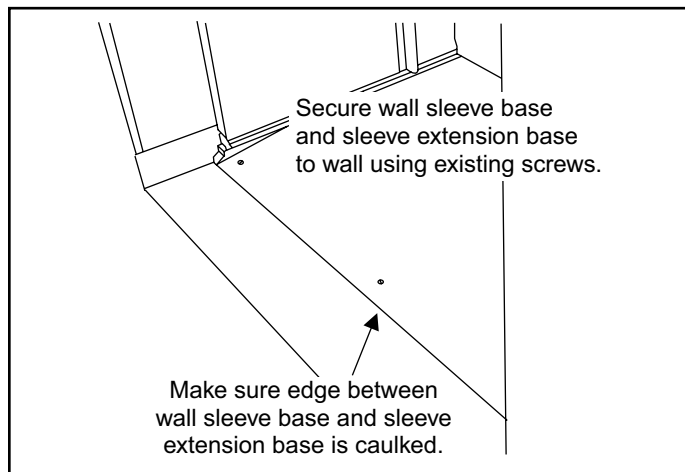

Figure 3. Installing Extension Base
2. Remove the three screws from the front of the plastic base of the wall sleeve (see Figure 3). Slide base panel of sleeve extension underneath plastic base of wall sleeve, aligning screw holes in each. Base panel of sleeve extension should be flush with exterior of wall. Caulk between each surface. Use the three screws removed earlier to secure the wall sleeve base and sleeve extension base panel to wall opening.